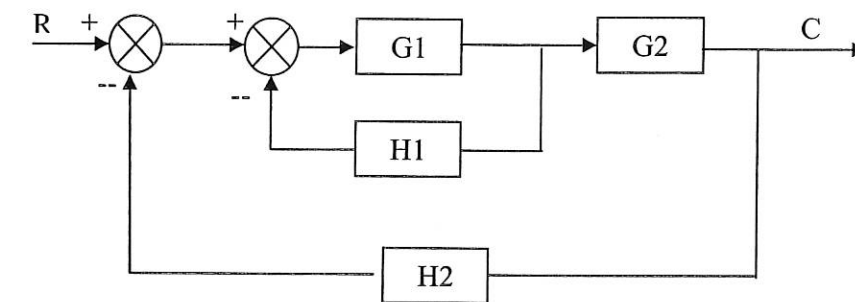

Figure 3C
- c) Simplify the block diagram in Figure 3C through reduction method. [CLO2:C4]